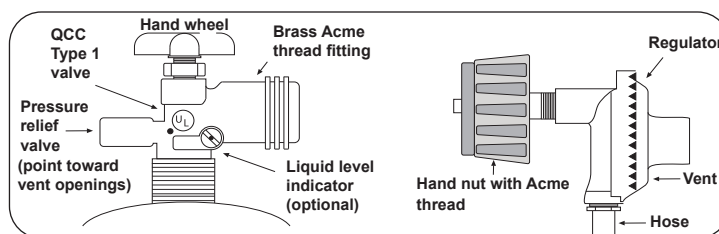

Fig. 7-1 Type I Acme thread coupler
- The pressure regulator and hose assembly used must match the specification for Type I by ANSI Z 21.58/CGA 1.6 (see Fig. 7-1).
**To disconnect:** Turn the hand nut counterclockwise until detached (Fig. 7-1).